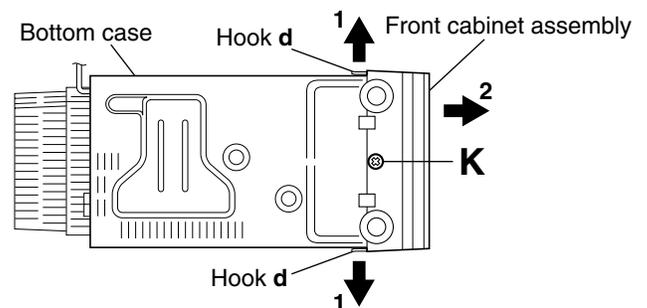

Fig.12
6. Remove the screw **K** retaining the front cabinet assembly from the bottom side of the main body. (See Fig.12.)
7. While opening the hooks **d** to the left and right of the lower part of the front cabinet assembly (in the direction of the arrows **1**), slide the front cabinet assembly toward the front (in the direction of the arrow **2**). (See Fig.12.)
8. Disconnect the wire from the connector on the PB/REC head board, and then remove the front cabinet assembly. (See Fig.12.)